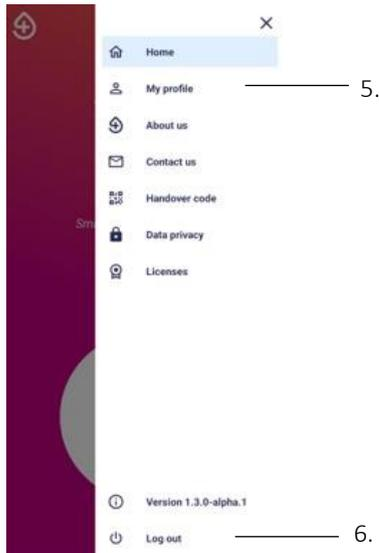

Figure 6. Setting menu
<p>2. Menu button</p>	<p>Navigates to the menu for user profile, contact formular, data privacy policies, log out etc. (see Figure 6).</p>
Menu	Allows you to change profile settings, contact S4DX, access the S4DX website, view data protection policies and application licenses, and log out (see Figure 6).
5. My profile	Leads to your profile page and allows you to view and change first and last name, and language settings (See Figure 6).
<p>12. Back to setting menu</p>	<p>Return to menu (see Figure 6) from your profile screen (see Figure 8).</p> <ul style="list-style-type: none"> - Tapping this button without saving will lead to the loss of changes.